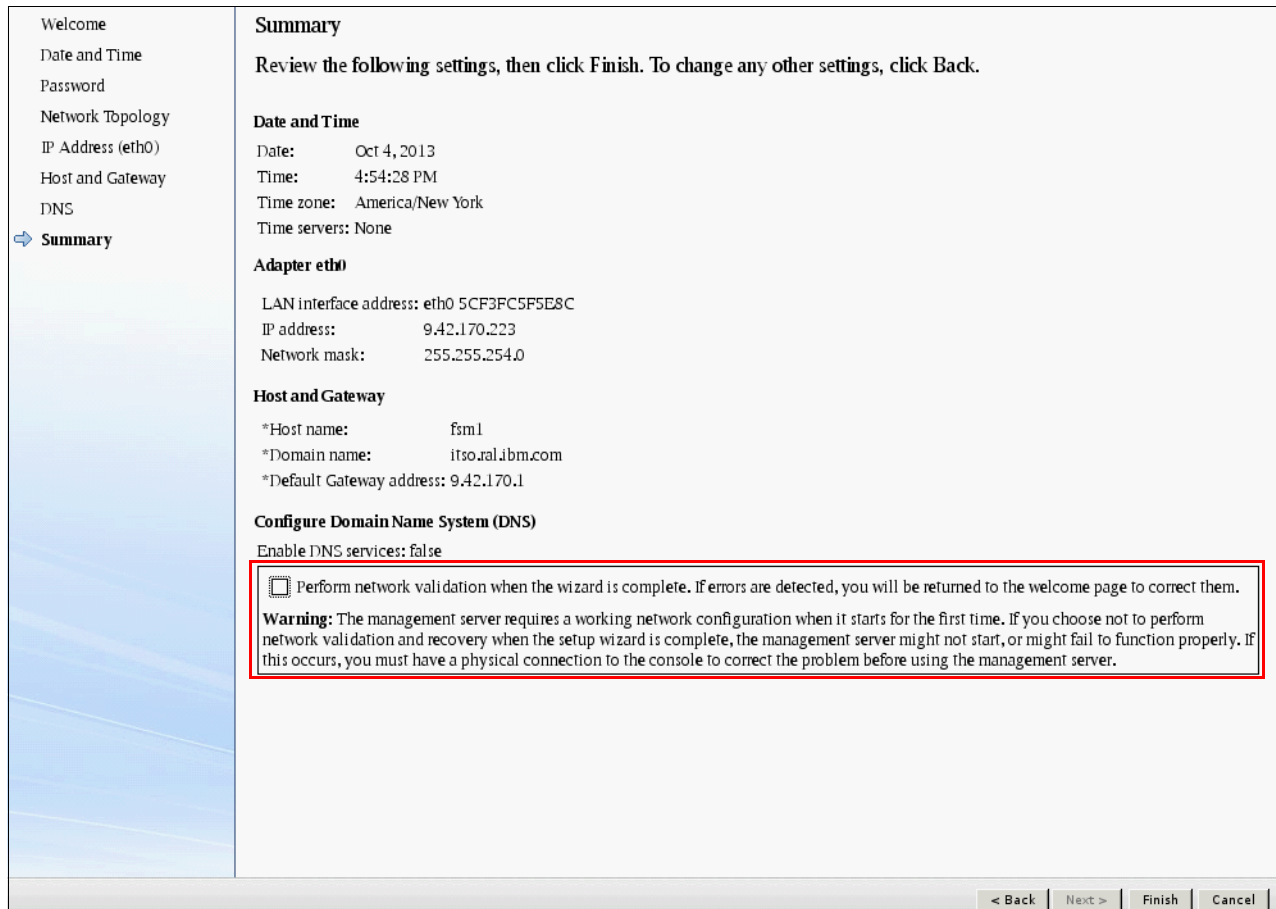

Figure 6-14 FSM startup wizard summary window
12. The summary window of all configured options is displayed as shown in Figure 6-14. To change a selection, click **Back**. If no changes are needed, click **Finish**.